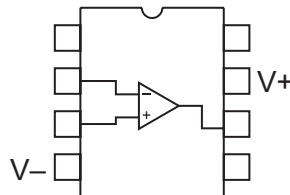

Fig. 11.6
- (ii) Fig. 11.6 shows the outline of an OP AMP IC that will be used in a comparator circuit.